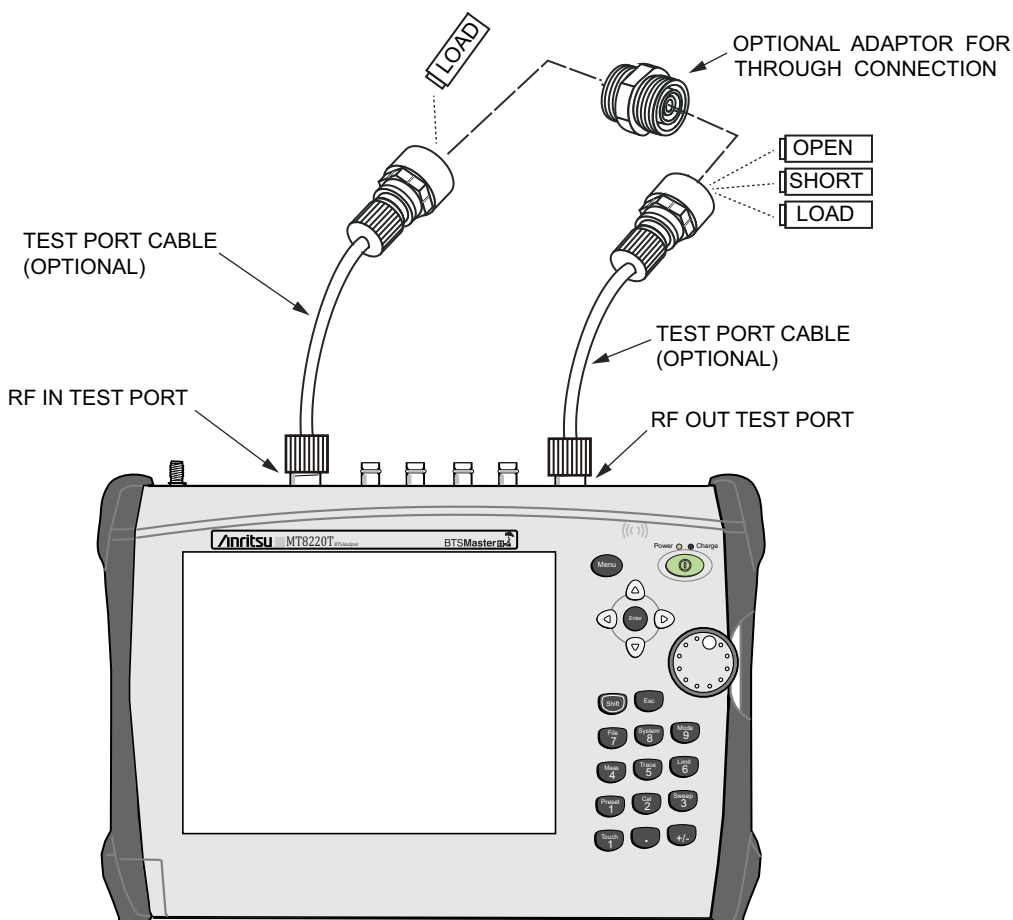

Figure 3-2. 2-Port Calibration
1. If a test port extension cable is to be used, connect the cable to the RF Out and/or RF In connector on the BTS Master. The calibration components will be connected at the end of the cable (Figure 3-2).
3. Press the **Shift** key and then the **Calibrate (2)** key.